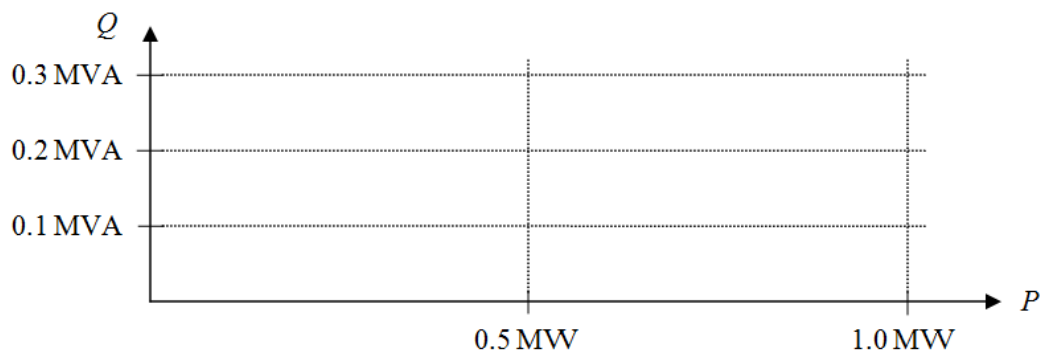

Figure 3.3: Diagram for reactive power over active power
- 3.5** Determine the reactive power  $Q$  of the transformer for all three output powers listed in 3.4). Where does the reactive power, which is required by the transformer's leakage inductance, come from? Draw your calculated values in the diagram in Figure 3.3 and try to sketch the characteristic of  $Q$  over  $P$ . What is the mathematical relation between reactive and active power?